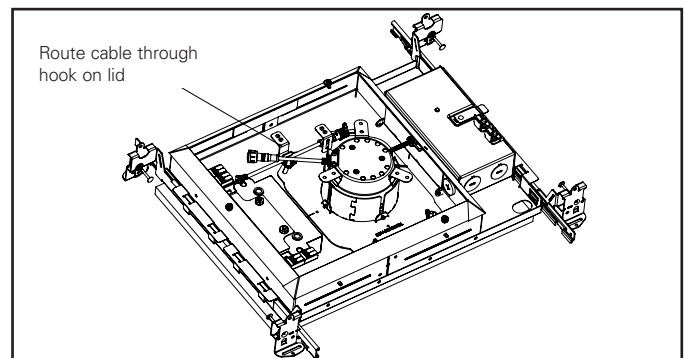

Figure 20.
10. Make sure wires will not interfere with the optic and LED module- route wires through the hook provided on the lid. (fig 20).
9. Make sure wires will so not interfere with the optic and LED module- route wires through the hook provided on the lid. (fig 20)